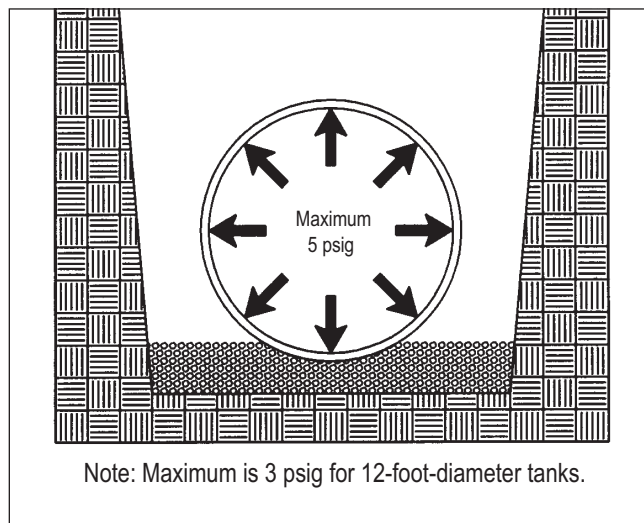

FIGURE 3-1
3.4.1. The air test pressure is 5 psig (3 psig for 12-foot-diameter tanks). See *FIGURE 3-1*.